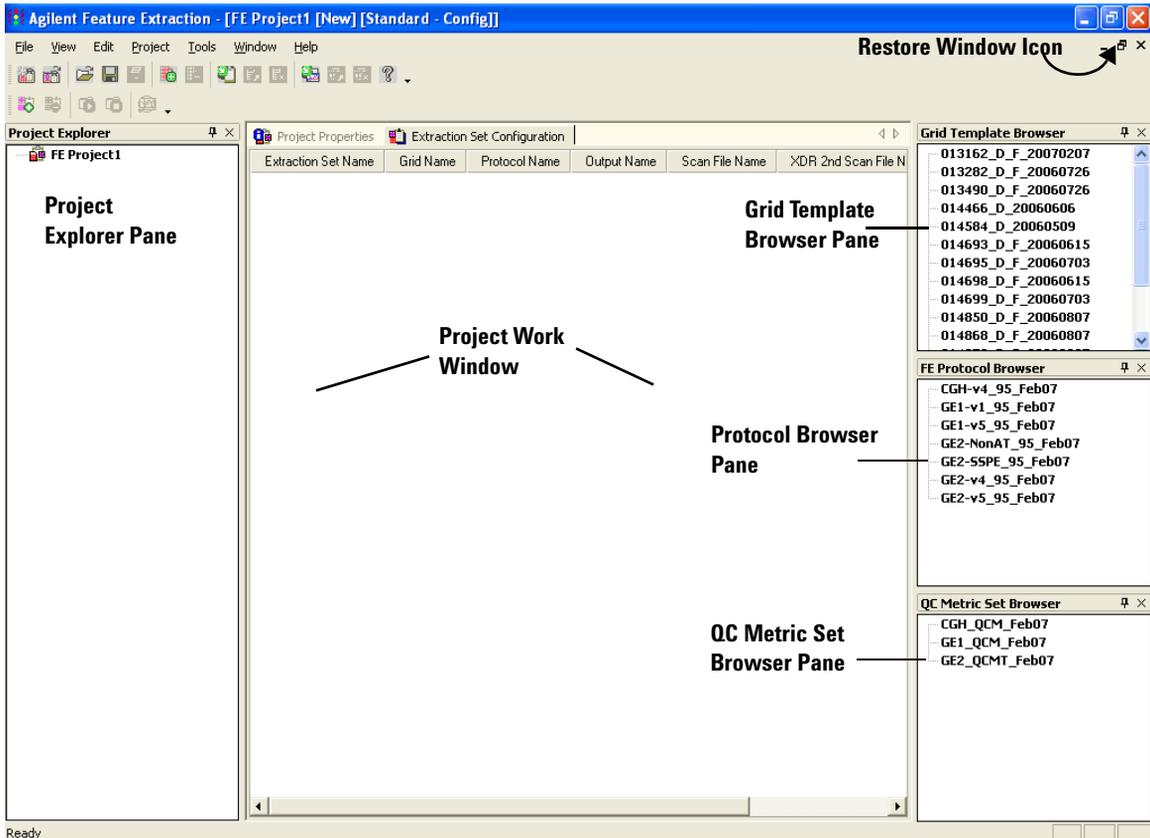

Figure 91 FE Standard Project Configuration window – default
- Click the **Restore Window** icon for the Project Work Window. See Figure 91.